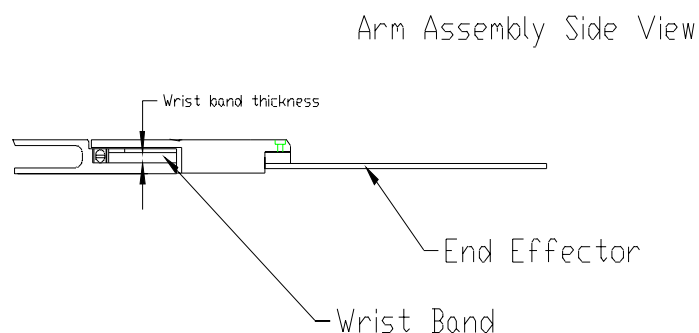

Figure 9-4: Arm Assembly Side View
1. Measure the wrist band thickness as shown in **Figure 9-4**. Use a small scale or dial caliper to determine the proper specification from Band Size Table.